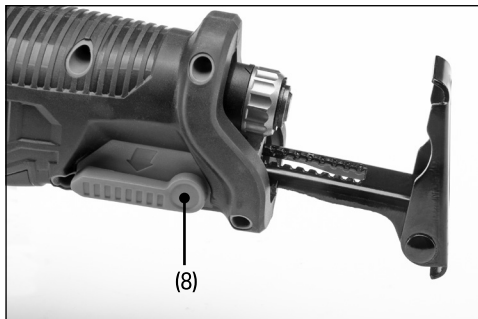

Fig. 7
7.4 Adjustable Sole Plate Locking Switch – Fig.7